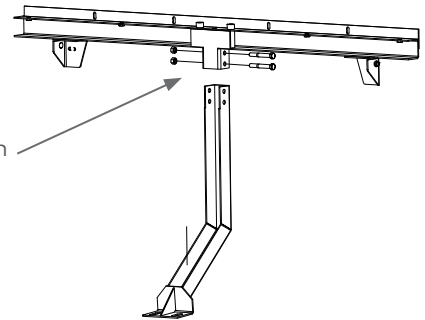

Fig. 2
- A. After the barrier has been completely installed, then proceed by attaching the (3OSB4715-07) lower and (3OSB4715-01) upper support bars. (As shown in Fig. 2) Use the two (3X114) 3/8 bolts and (3X170) nuts secure the support bars together.